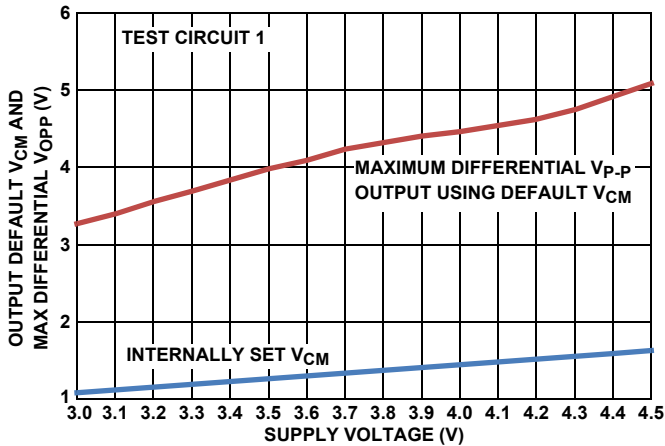
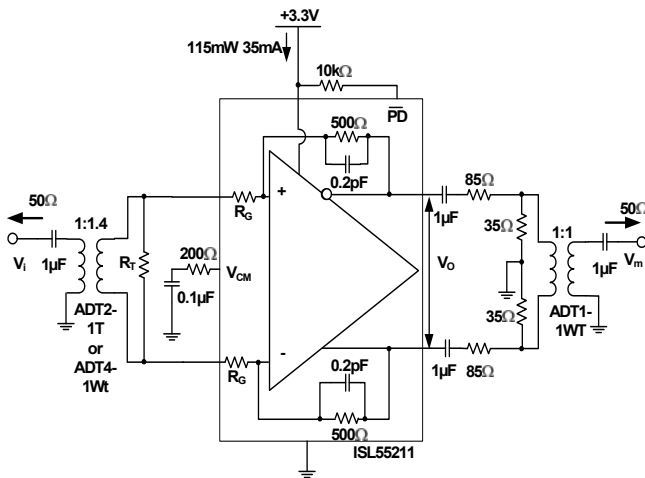
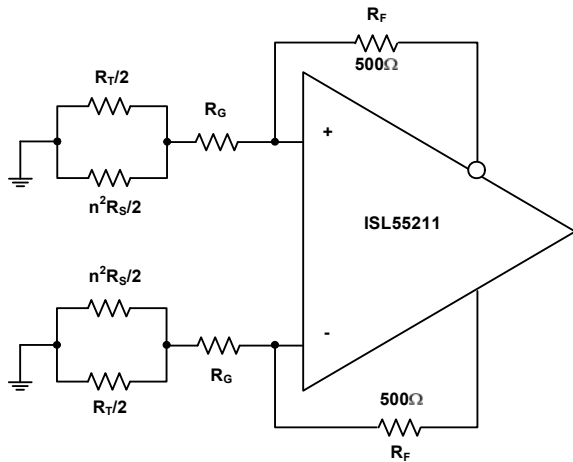
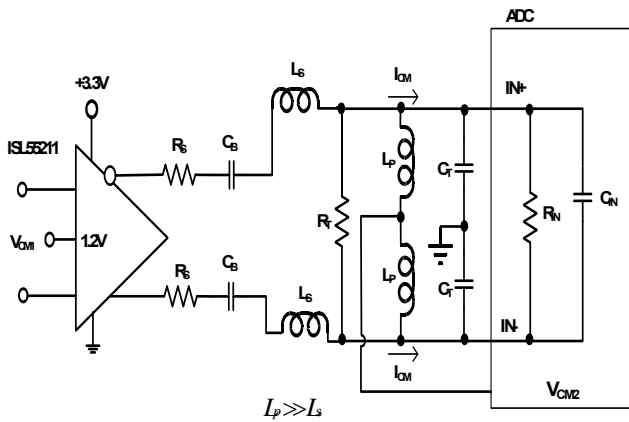

FIGURE 27. DEFAULT  $V_{CM}$  AND MAX  $V_{OPP}$  vs SUPPLY VOLTAGE
FIGURE 29. TEST CIRCUIT 1
FIGURE 35. NOISE GAIN MODEL FOR THE TRANSFORMER COUPLED INPUT CIRCUIT OF FIGURE 29
FIGURE 37. AC-COUPLED, HIGHER FREQUENCY RLC INTERSTAGE FILTER DESIGN
Test Circuit 1 of Figure 29 forms a starting point for many of the characterization curves for the ISL55211. Since most lab sources and measurement devices are single-ended, this circuit converts to differential at the input through a wideband transformer and would also be a typical application circuit coming from a single-ended source. Assuming the source is a 50Ω impedance, the internal  $R_G$  resistors and external  $R_T$  are set to provide both the input termination and the gain. Since the inverting summing nodes act as virtual ground points for AC signal analysis, the total termination impedance across the input transformer secondary will be  $(2 * R_G) || R_T$ . Setting this equal to  $n^2 * R_S$  will give a matched input impedance inside the bandwidth of the transformer (where "n" is the turns ratio). The amplifier gain is fixed by the selected input  $R_G$  element and the internal 500Ω feedback resistors. While the ISL55211 is internally a Voltage Feedback Design (VFA) to give the lowest possible noise, internal compensation caps hold the bandwidth over gain setting approximately constant at 1.4GHz. For wider small signal bandwidth at lower gains, consider the ISL55210, which provides >2.2GHz at a gain of 12dB.
Working with a transformer coupled input as shown in Figure 29, or with two DC blocking caps from a differential source, means the output common mode voltage set by either the default internal  $V_{CM}$  setting, or a voltage applied to the  $V_{CM}$  control pin, will also appear as the input common mode voltage. This provides a very easy way to control the ISL55211 I/O common mode operating voltages for an AC-coupled signal path. The internal common mode loop holds the output pins to  $V_{CM}$  and, since there is no DC path for an  $I_{CM}$  current back towards the input in Figure 29, that  $V_{CM}$  setting will also appear as the input common mode voltage. It is useful, for this reason, to leave any input transformer secondary centertap unconnected. The internally set  $V_{CM}$  voltage is referenced from the negative supply pin. With a single 3.3V supply, it is very close to 1.2V but will change with total supply voltage across the device as shown in Figure 27.
Most of the characterization curves starting with Figure 29 then get different gains by changing the connections to the two pairs of input  $R_G$  connections, as shown on the pin configuration drawing on page 2. Two input turns ratios are intended for Test Circuit 1; either a 1:1.4 turns ratio (ohms ratio of 2) or a 1:2 turns ratio (ohm ratio of 4). The specific transformers shown in Figure 29 are representative of broadband RF transformers but alternate devices and manufacturers of these turns ratio devices are certainly applicable. The output side of this test circuit presents a differential 200Ω load while converting the differential to single-ended through a resistive attenuator and a 1:1 transformer. This inserts approximately a 17dB insertion loss that is removed to report the characteristic curves. For load tests below the 200Ω shown in Figure 29, a simple added shunt resistor is placed across the output pins. For loads  $> 200\Omega$ , the series and shunt load R's are adjusted to show that total load (including the 50Ω measurement load reflected through the 1:1 output measurement port transformer) and provide an apparent 50Ω differential source to that transformer. This output side transformer is for measurement purposes only and is not necessary for final applications circuits. There are output interface designs that do benefit from a transformer as part of the signal path as shown in Figure 1. In that case, the 1:1.4 output side transformer becomes part of a filter design and recovers the filter insertion loss from the amplifier output pins to the ADC inputs.
The characterization circuit of Figure 29 shows one possible input stage interface that offers several advantages. Where AC coupling is adequate, the circuit of Figure 29 simplifies the input common mode voltage control. If the source coming into this stage is single-ended, the input transformer provides a zero power conversion to differential. The two gain resistors ( $R_G$  in Figure 29) provide both a portion of the input termination impedance and the gain element for the amplifier. For 50Ω systems, these  $R_G$  resistors are too high with the turns ratios shown in Figure 29 to provide the full match and an external  $R_T$  resistor is required. This  $R_T$  element goes away at the highest gain setting using a 1:2 input turns ratio transformer.
This input interface also simplifies the input common mode control. The  $V_{CM}$  pin controls the output common mode voltage. In most DC-coupled FDA applications, the input common mode voltage is determined by both this output common mode and the source signal. In a configuration like Figure 29, there is no path for a common mode current to flow from output to input, so the input common mode voltage equals the output. A similar effect could be achieved with just two blocking caps on the two  $R_G$  resistors. A DC-coupled, single to differential, configuration will also have a common mode input that is moving with the input signal. Converting to just a differential signal at the amplifier, as in Figure 29, removes any input signal related artifacts from the input common mode making the ISL55211 behave as a differential only VFA amplifier. There is only a very small differential error signal at the inputs set by the loop gain, as in a
of 1.3V for instance, then  $1.3V + 0.9V + 1.5V = 3.7V$  will give an unclipped 3.6VP,P output capability. The  $V_{P,P}$  reported in Figure 27 is an asymmetrically clipped maximum swing. Going 10% above this 3.7V target to 4.1V will be within the recommended operating range and give some tolerancing headroom that would also suggest the  $V_{CM}$  voltage be moved up to approximately 1.5V, which coincides with the default output  $V_{CM}$  from Figure 27. Operating at +4.1V single supply in a Figure 29 type configuration will give the maximum linear differential output swing of 3.6VP,P.
The differential inputs internal to the ISL55211 also have operating range limits relative to the supply voltages. Operating in an AC-coupled circuit like Figure 29 will produce an input common mode voltage equal to the outputs. The inputs can operate with full linearity with this  $V_{CM}$  voltage down to 1.1V above the  $-V_S$  supply. On the default 1.2V output  $V_{CM}$  on +3.3V supplies this gives a 100mV guardband on the input  $V_{CM}$  voltages. Overriding the default  $V_{CM}$  by applying a control voltage to the  $V_{CM}$  pin should be done with care in going towards the negative supply due to this limit. On the + side, the maximum input  $V_{CM}$  above the  $-V_S$  supply is 2V so there is more room to move the output  $V_{CM}$  up than down from the default value.
+85°C maximum operating ambient from Figure 27, we get  $4.5V \times 45mA \times 120^\circ C/W = +24^\circ C$  rise above +85°C or approximately +109°C operating  $T_j$  maximum - still well below the specified Absolute Maximum operating junction temperature of +135°C.
Adding an input transformer can improve the input referred noise by adding a noiseless voltage gain. Starting from Test Circuit 1 of Figure 29, and assuming the source shows a matched broadband source  $R_S$  that will be matched by the input referred parallel combination of  $2 * R_G || R_T$ , a noise gain analysis circuit can be developed as shown in Figure 35.
Stepping through the 3 gain settings with two input transformers will allow the noise gain to be calculated for the circuit of Figure 35, which is all that is needed in Equation 1 to arrive at an output differential noise (since  $R_F$  is fixed at 500Ω). Doing this gives Table 4.
2. AC-coupled, higher frequency range interstage filter design. This design replaces the  $R_T$  resistors in Figure 35 with large valued inductors and implements the filter just using shunt resistors at the end of the RLC filter. In this case, the ADC  $V_{CM}$  can be tied to the centerpoint of the bias path inductors (very much like a Bias-T) to provide the common mode voltage and current to the ADC inputs. These bias inductors do limit the low frequency end of the operation where, with  $1\mu\text{H}$  values, operation from 10MHz to 200MHz is supported using the approach of Figure 37.